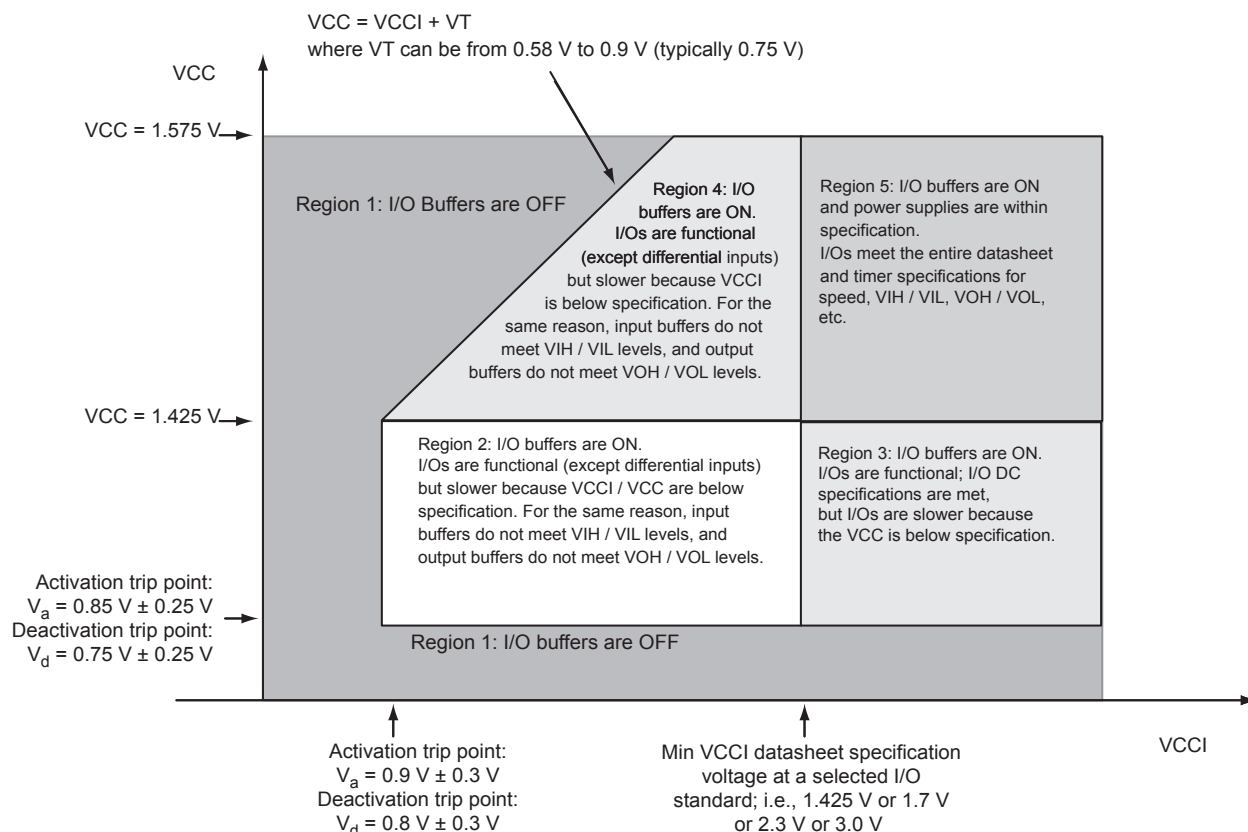
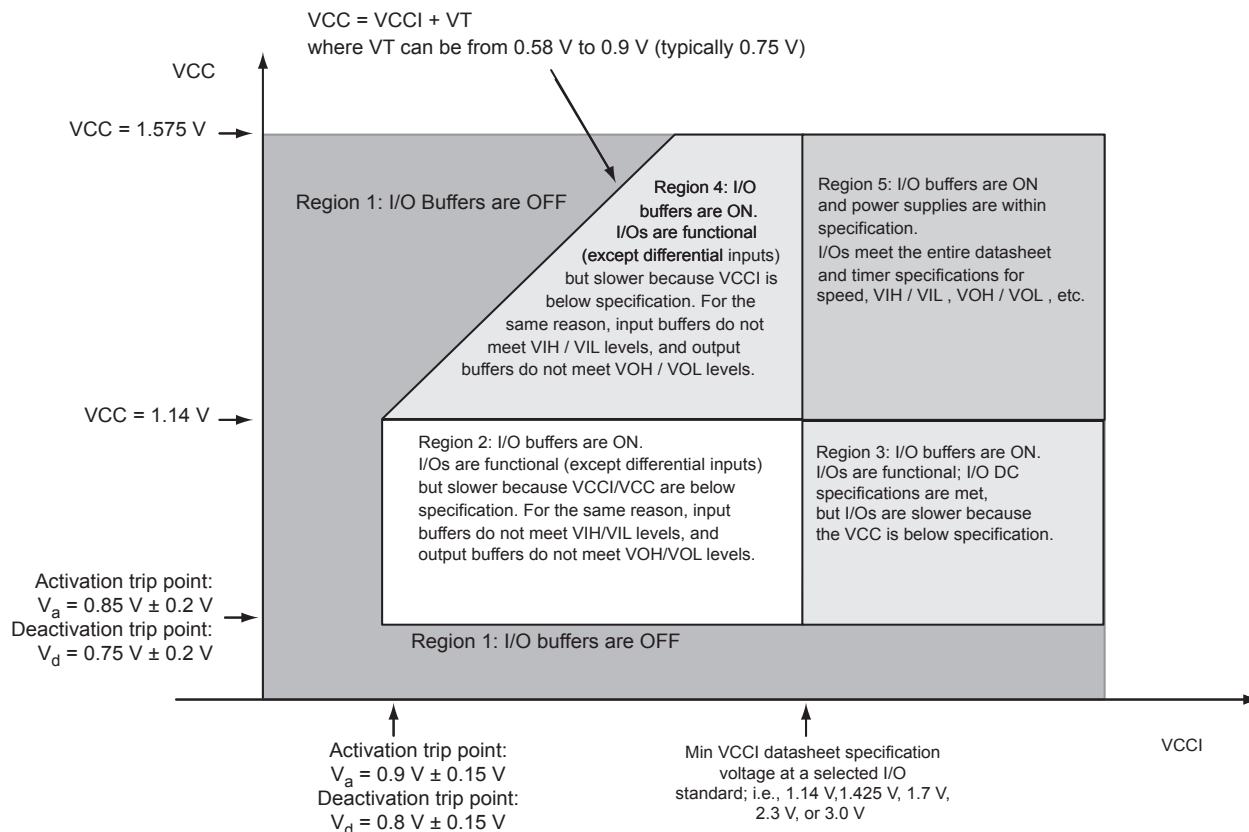

**Figure 2-1 • V5 – I/O State as a Function of VCCI and VCC Voltage Levels**
**Figure 2-2 • V2 Devices – I/O State as a Function of VCCI and VCC Voltage Levels**
Sophisticated power-up management circuitry is designed into every IGLOOe device. These circuits ensure easy transition from the powered-off state to the powered-up state of the device. The many different supplies can power up in any sequence with minimized current spikes or surges. In addition, the I/O will be in a known state through the power-up sequence. The basic principle is shown in Figure 2-1 on page 2-4 and Figure 2-2 on page 2-5.
1. VCC and VCCI are above the minimum specified trip points (Figure 2-1 on page 2-4 and Figure 2-2 on page 2-5).
Microsemi recommends using monotonic power supplies or voltage regulators to ensure proper powerup behavior. Power ramp-up should be monotonic at least until VCC and VCCPLX exceed brownout activation levels. The VCC activation level is specified as 1.1 V worst-case (see Figure 2-1 and Figure 2-2 on page 2-5 for more details).